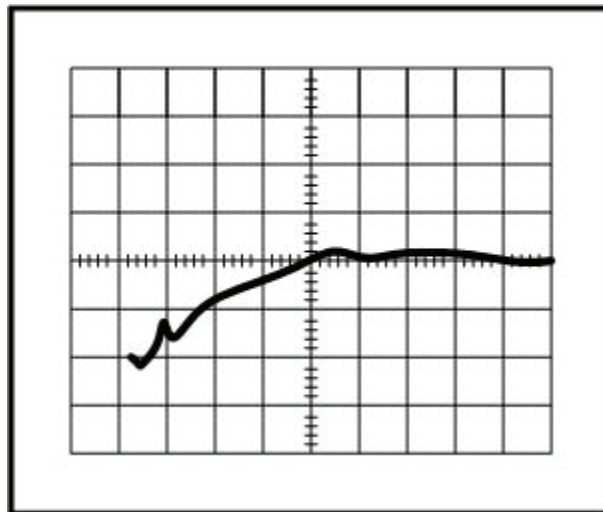

Figure 3. Fast risetime waveform.
(1) Connect TI positive **FAST RISE OUTPUTS** to oscilloscope **Vertical 1** input.
(2) Adjust oscilloscope controls and TI **PULSE AMPLITUDE** control as required to obtain a typical waveform as shown in figure 3. The leading edge aberrations during the first 10 nanoseconds will be within 2 percent of the peak-to-peak amplitude or 10 millivolts, whichever is greater. If oscilloscope waveform does not meet requirement, perform **b** below.